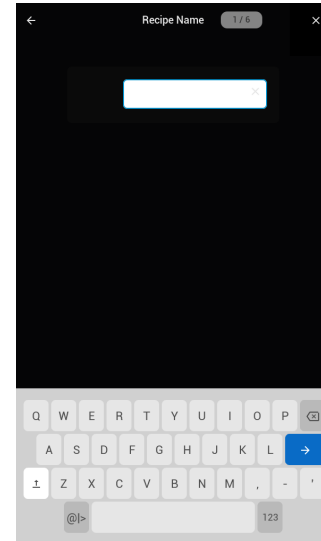

Figure 25: New Recipe Name
3. Input the recipe name and touch the blue arrow button to continue (Figure 25, below).